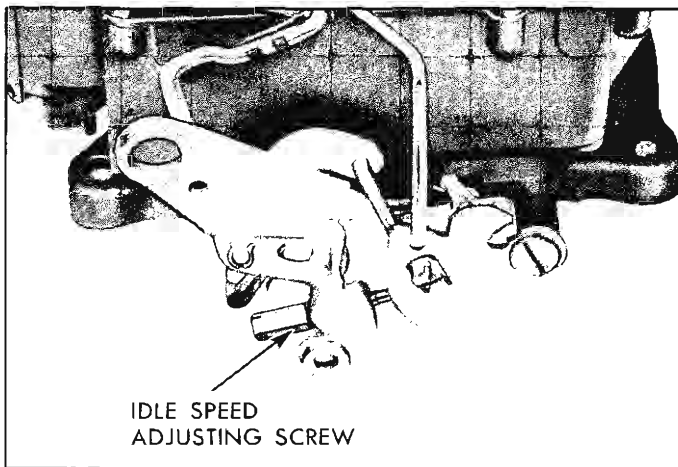

Fig. 38—Idle Speed Adjustment—Rochester Four-Barrel
2. Adjust idle speed screw (fig. 38) to obtain the following idle speeds: